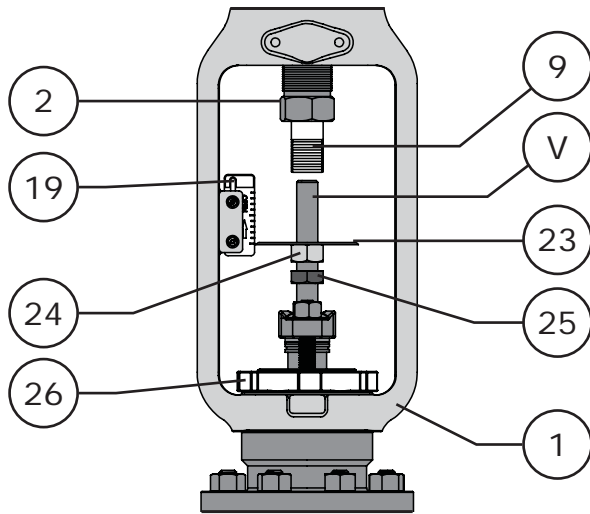

Figure 7 Actuator Mounting Detail
- 6 Completely lower the actuator into place on the valve. Orientate the actuator with the window of the yoke (Key 1) parallel with the front of the valve body and the lower instrument mounting boss facing the front of the valve as shown in Figure 7.